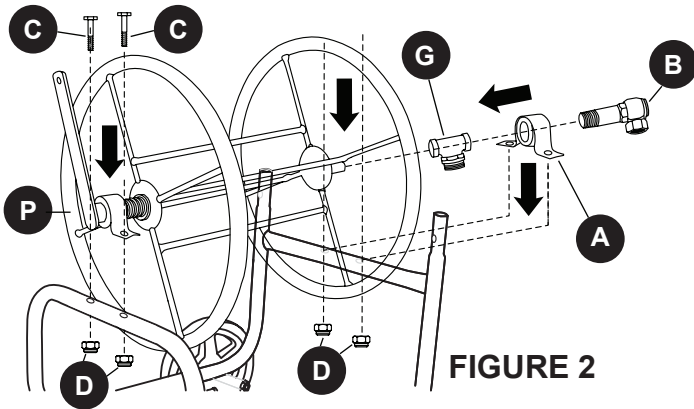

FIGURE 2
Insert the brass swivel (B) through the U-bushing (A) and into the galvanized tee (G); tighten securely. Screw the galvanized tee onto the end of the spool (P). Set spool onto the frame, then align the U-bushing holes with the holes in the frame. Insert the 1.75" bolts (C) through the U-bushing and frame holes, then fasten the lock nuts (D) onto the 1.75" bolts. Repeat on crank handle side. **Figure 2**